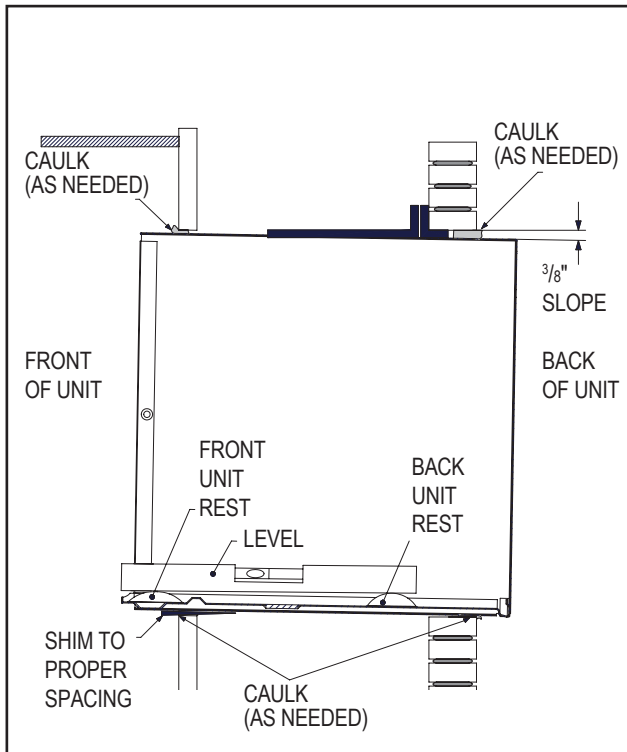

Figure C.4.2
STEP 4. The USC sleeve must also be installed with a downward tilt toward the outside of the building. If a level is placed so that it rests on the front and back unit rest as shown in Figure C.4.2, a properly installed unit provides a 3/8" slope to the outside of the building.
A. Check the anchor screw. There should be four (4) in the USC SLEEVE (two in each side).
B. Determine if the sleeve has a downward slope of 3/8 to the outside. See figure C.4.2 for further details.